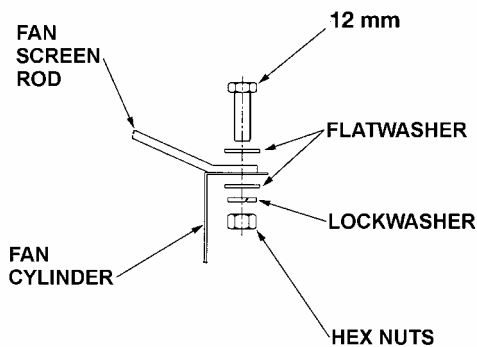

Figure 9 - Attaching Fan Screen to Cylinder
2. At each hole, attach the fan screen to the discharge cylinder as shown in Figure 9.
4. At each hole, attach the fan screen to the discharge cylinder as shown in Figure 9. At the four points where the support frame meets the cylinder, bolt the support frame to the cylinder together with the fan screen.